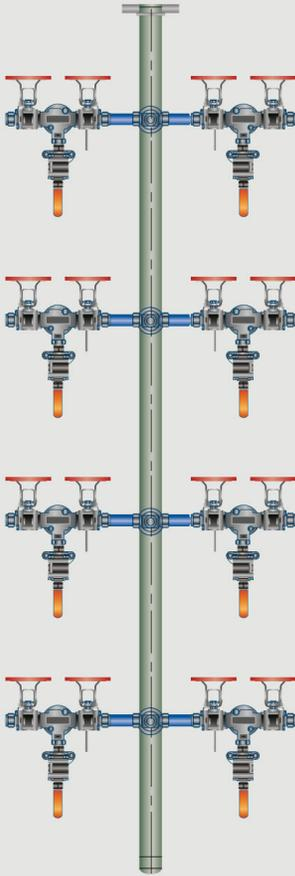

Figure 14: Tree Arrangement
2. Each tracer line should have its own steam supply isolation valve and steam trap station. See *Figure 14*.